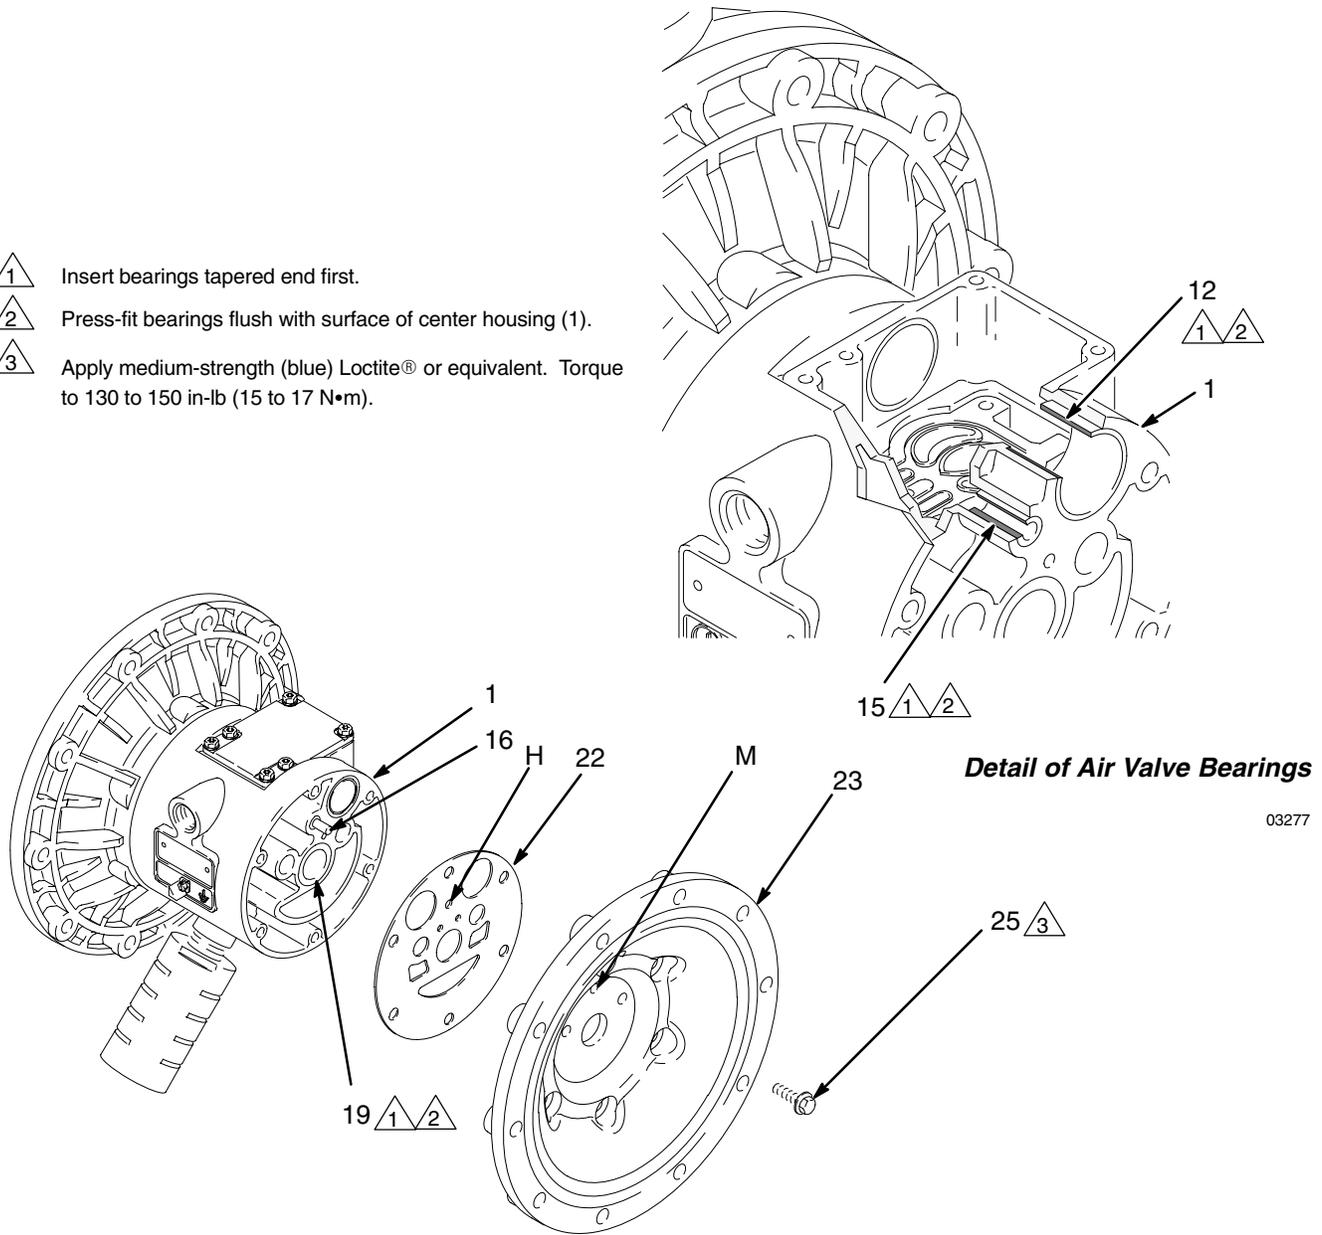

Fig. 14
5. Using a 10 mm socket wrench, remove the screws (25) holding the air covers (23) to the center housing (1). See Fig. 14.
6. Remove the air cover gaskets (22). Always replace the gaskets with new ones.
7. Use a bearing puller to remove the diaphragm shaft bearings (19), air valve bearings (12) or pilot pin bearings (15). Do not remove undamaged bearings.
1. If removed, install the shaft u-cup packings (402*) so the lips face **out** of the housing (1).
2. The bearings (19, 12, and 15) are tapered and can only be installed one way. Insert the bearings into the center housing (1), **tapered end first**. Using a press or a block and rubber mallet, press-fit the bearing so it is flush with the surface of the center housing.
4. Align the new air cover gasket (22) so the pilot pin (16) protruding from the center housing (1) fits through the proper hole (H) in the gasket.
5. Apply medium-strength (blue) Loctite® or equivalent to the threads of screws (25). Align the air cover (23) so the pilot pin (16) fits in the middle hole (M) of the three small holes near the center of the cover. Install the screws (25), handtight. See Fig. 14. Using a 10 mm socket wrench, torque the screws oppositely and evenly to 130 to 150 in-lb (15 to 17 N•m).